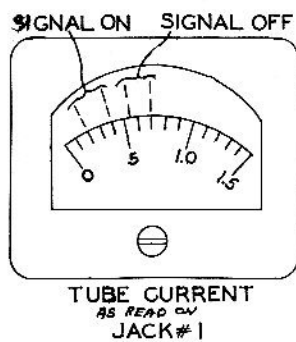
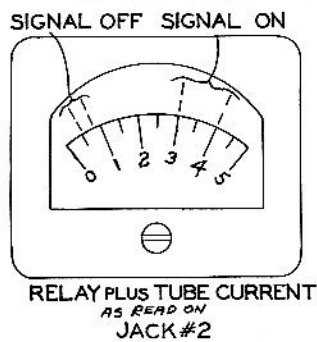
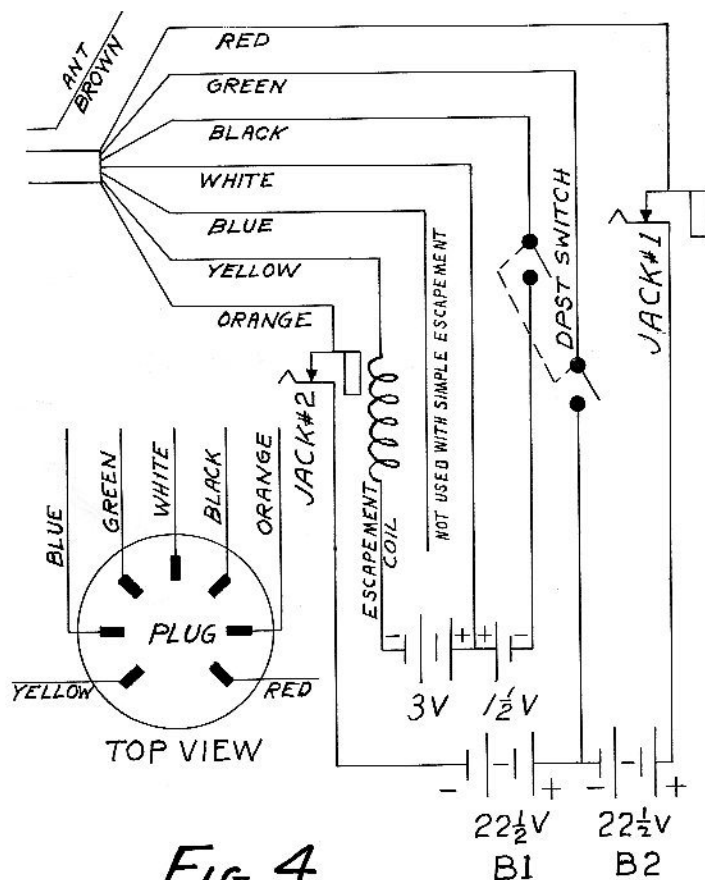

Fig 3A
Fig 3B
Fig 4
top center relay terminal (normally closed contact). Strip leads back 3/16" before soldering to eyelets and terminals or to the plug. (See Figure 4). Bring all leads except antenna to point X in order that the cover may be installed properly. Antenna wire extends from base on opposite side (point Y).
- 8.1 All batteries must be wired with polarity exactly as shown in wiring diagram (Fig. 4). Make special note that the -A lead is completely separate from the -B battery lead. It is recommended that the one or two pen cells for filament supply and two other pen cells for the escapement be mounted in battery boxes for ready changeability. The two 22-1/2 Volt "B" batteries may be mounted in battery boxes also or leads may be soldered directly to them.
- 8.2 Figure 4 shows the wiring diagram of the batteries, escapement, and receiver with the color of leads identified. Also a recommended arrangement of leads is shown for the plug and socket included with the set. Our test fixtures will be wired for this arrangement of leads in case the set is sent in for service with plug attached. It should be obvious that the socket has the same wiring arrangement as the plug. CAUTION: Do not wire socket according to numbers, but by color matching socket wires with plug wires.
- 8.3 The wiring diagram (Figure 4) shows a Double Pole Single Throw Switch to open the filament power and simultaneously shut off any current flowing through the transistor.
- 8.4 Although the wiring diagram (Figure 4) shows two closed circuit jacks which will accept
phone plugs, neither is a necessity for the hook-up in your model. These are a convenience for inserting a meter to check the receiver. A meter plugged into jack #1 (Figure 3A) reads the current flowing in the tube, and a meter in jack #2 (Figure 3B) reads the sum total of the tube current and the relay current. If jacks are not desired a meter can also be inserted by simply opening a lead.
- 10.3 If the receiver is properly connected including the antenna, and the switch turned on the plate current of the tube only as read by the meter plugged into jack #1 (Figure 4) may be anywhere between 0.2 M.A. and 0.7 M.A. See Figure 3A. Turn out (counterclockwise) the slug marked S until the meter reads a steady maximum. Then turn out two or three additional turns. (CAUTION: The following adjustments must be made with a non-metallic screw driver such as fiber or bakelite.)
- 10.7 After the tube plate current is operating properly (Off signal value 0.55 M.A. to 0.7 M.A.) and (On signal value 0.2 to 0.4)(Figure 3A) the relay or transistor current will be 0 - 0.1 off signal and approximately 3 M.A. on signal. (Fig. 3B). Check with meter in jack #2 (Figure 4).
- 11.2 These values of relay pull-in and drop-out can be easily checked by wiring a 100,000 ohm potentiometer or volume control in series with the plus 22-1/2 Volt green lead (Figure 4). Either send a signal or turn in slug S until relay current jumps up. Then turn potentiometer shaft to insert resistance which decreases current and the value may be observed at which the escapement operates - i.e., relay contacts open and close.
- 12.3 The "B" batteries (B1 and B2)(Figure 4) can be used down to 17 Volts each if they run down uniformly. Do not use one new cell and one old cell together unless the new cell is used in the B-2 position. Having the voltage of B-1 appreciably higher than B-2 causes the relay idle current to increase with no signal from transmitter. This could cause the relay to hold in and not release when transmitter signal is shut off.